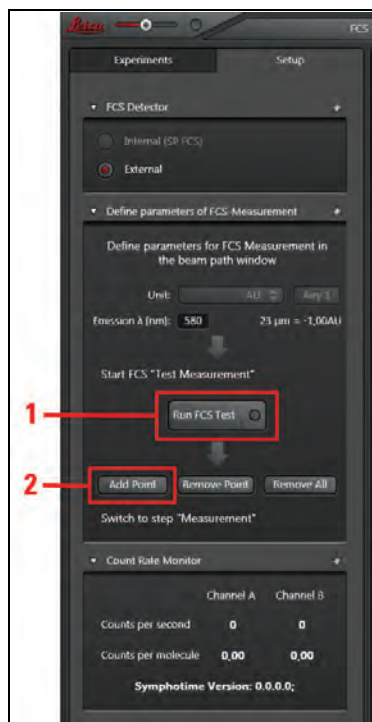

Figure 176: Starting the FCS test and applying the measuring point
2. Press the **Run FCS Test** button (**Figure 176, item 1**) on the **Setup** tab to start the illumination. You can view and optimize the fluorescence intensity in the count rate monitor. Laser line and intensity can be modified during the test measurement until you attain the count rate or counts per molecule desired.
6. If you would like to reuse a tested FCS measuring point later for the 'correct' FCS measurement, click **Add Point** (Figure 176, item 2) in the **Setup** tab. This measuring point is then written to a position list, which is used in the **Measurements** step in LAS AF. Do not make any more changes to the zoom. Changing the zoom in the **Setup FCS** step would render the position list invalid.